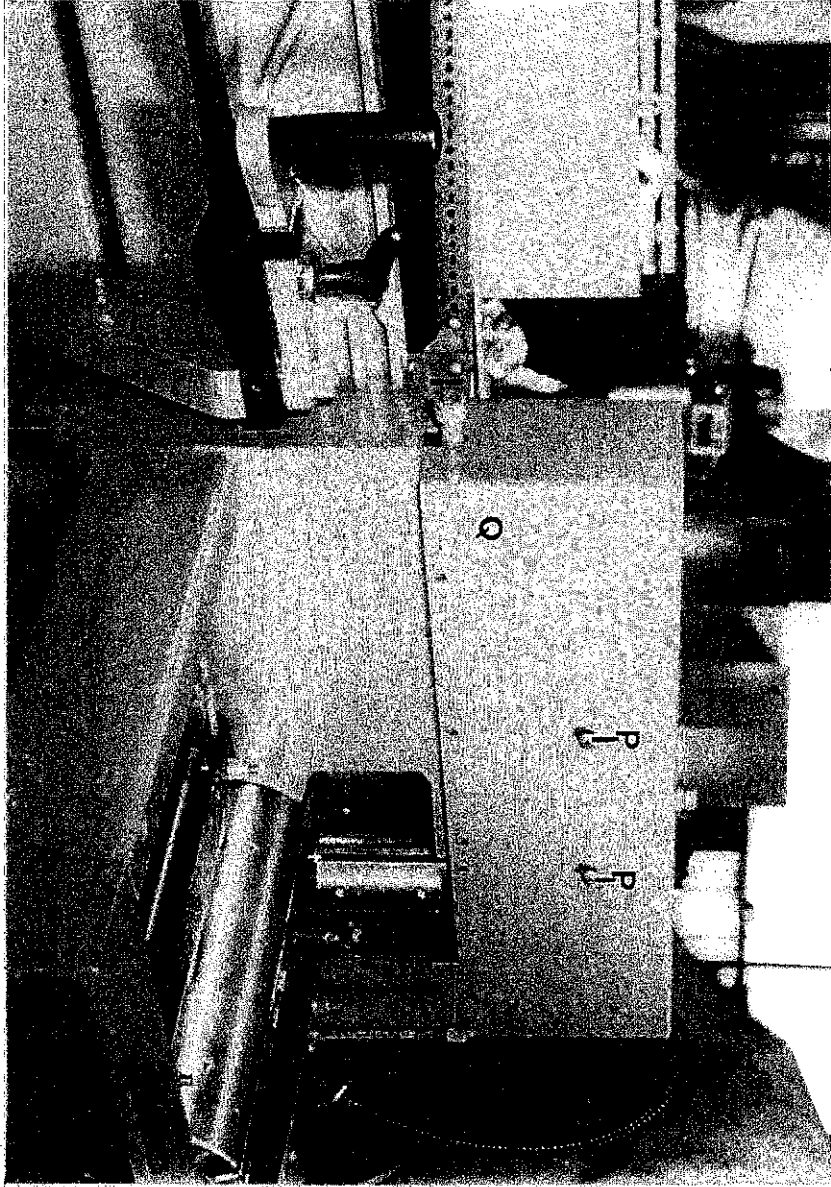

Fig 30
- 4) Remove 7 - M8 button head screws "P" FIG.30. Remove top side head guard "Q". (5 are located at SurfacER side and 2 at thicknessER side).